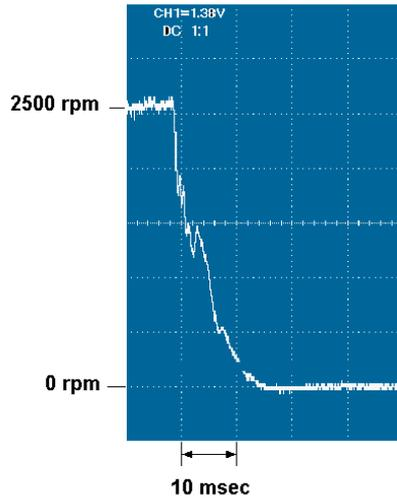

Figure 8 - Typical Braking Time
BRAKE INPUT (Terminal 11) - This input is normally high, pulled up to the internal 5V reference. To dynamically brake the INTEGRAMOTOR™ to a stop, pull the input low. It can be pulled low by either connecting it to a switch to one of the common terminals (Terminals 6 and 12), as shown in Fig. 1, or by connecting it to an open collector output from a PLC or other control device. Note that this function is not the same as a holding brake. It brings the INTEGRAMOTOR™ to a quick stop, but will not hold it in place. The stopping time is a function of many variables and must be determined independently for each application. Some of the variables include the size of the INTEGRAMOTOR™, the gear ratio, the load inertia, and friction. Typical stopping performance is shown graphically in Fig. 8, with time divisions of 10 msec. A schematic diagram for the brake input is shown in Fig. 4.
- a) Switch the BRAKE input low to dynamically brake the INTEGRAMOTOR™ to a quick stop. Typical stopping time is shown in Fig. 8.